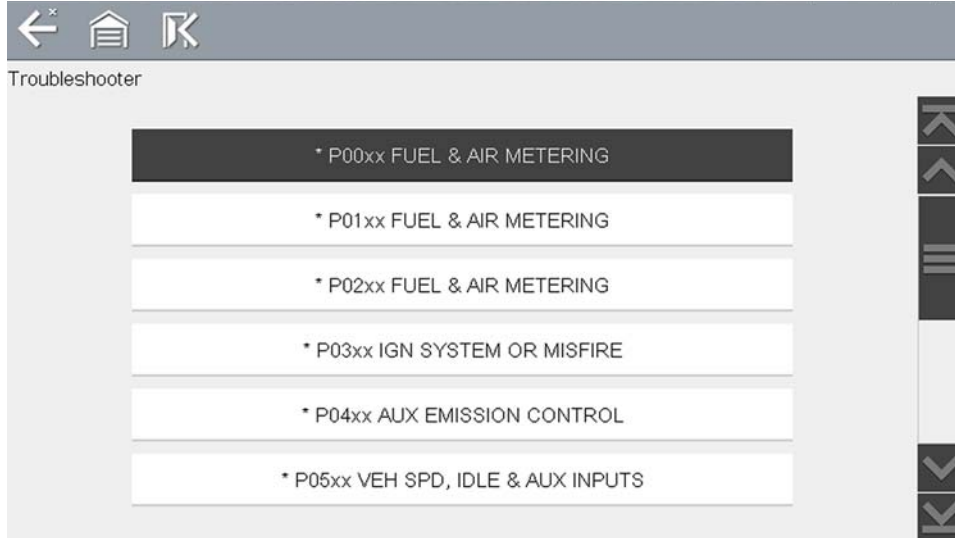
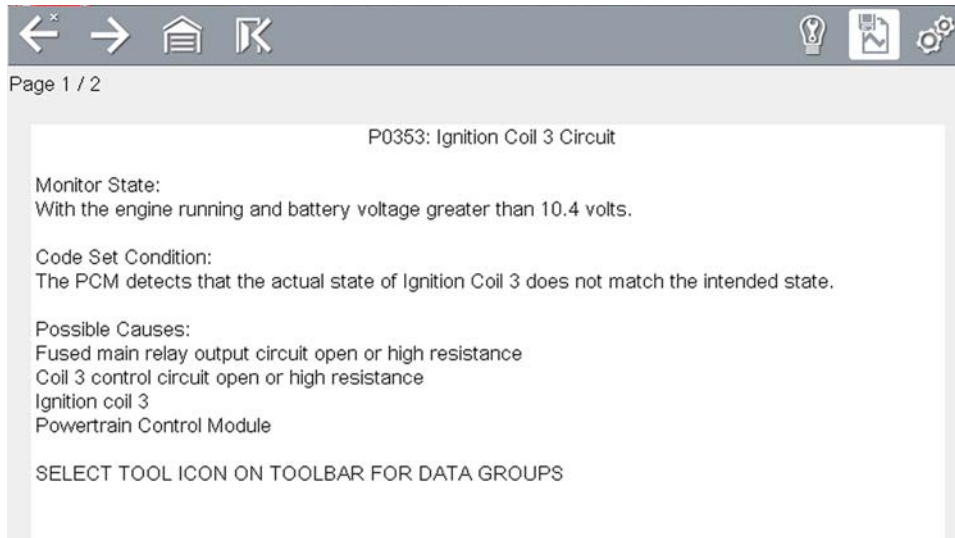

Figure 6-50 Troubleshooter code tip menu
Figure 6-51 Troubleshooter tip (Example: P0353)
- **Code Tips**—provides detailed information on setting conditions, testing, and interpreting test results for specific codes (Figure 6-50 and Figure 6-51).